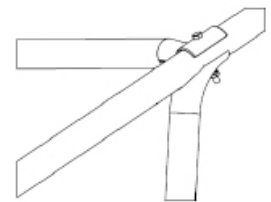

FIGURE 3
5. As shown in Figure 3, align a double angled cross-member at the base of one leg angle. Align a straight cross-member to the front leg assembly with a bolt and through the cross-member, the leg assembly, and the double angled cross-member. Secure with nut. Repeat at rear and on both sides of the opposite leg.